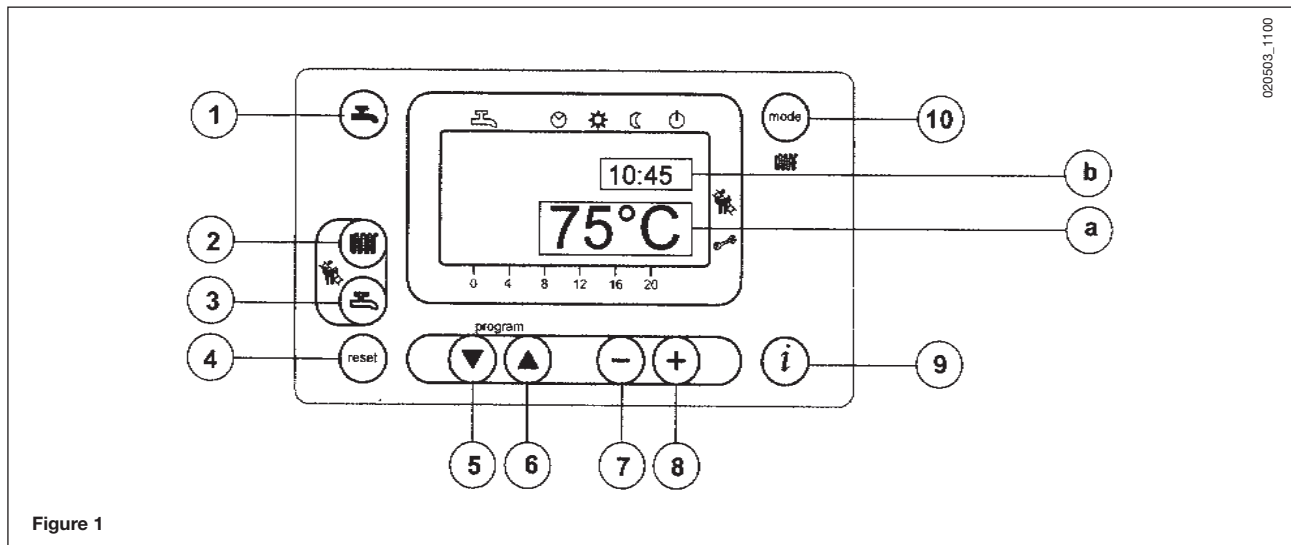
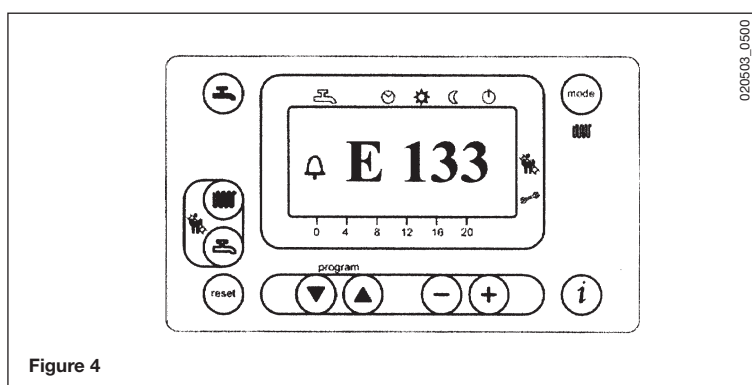

Figure 1
Figure 4
- Press the  key (2-figure 1) to set the central heating water temperature;
- press either of the   keys (1 or 10 - figure 1) to save and return to the main menu.
**NOTE** – With the outdoor sensor probe connected, the  key (2 - figure 1) can be used to shift the central heating curve. Press the   keys to decrease or increase the room temperature in the premises to be heated.
- Press the  key (3-figure 1) to set the maximum domestic hot water temperature;
The fault warnings appear on the main display (figure 1 a) together with the 🔔 symbol (Figure 4).